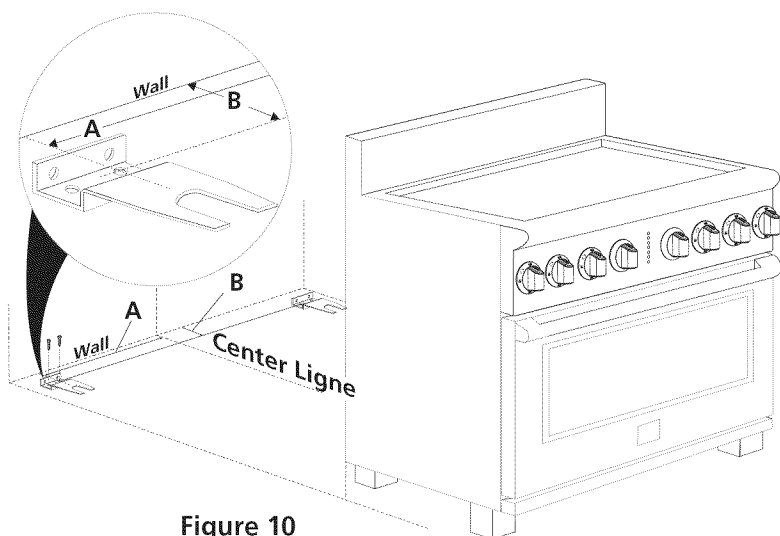

Figure 10
3. Unfold paper template and place it flat on the floor with the back and side edges positioned exactly where the back and sides of range will be located when installed. (Use the diagram in figure 10 to locate
5. Remove template and place bracket on floor (see figure 10). Line up holes in bracket with marks on floor and attach the bracket using the screws provided. Brackets must be secured to solid floor. If attaching to concrete floor, first drill 3/16" (4.8 mm) dia. pilot holes using a masonry drill bit.